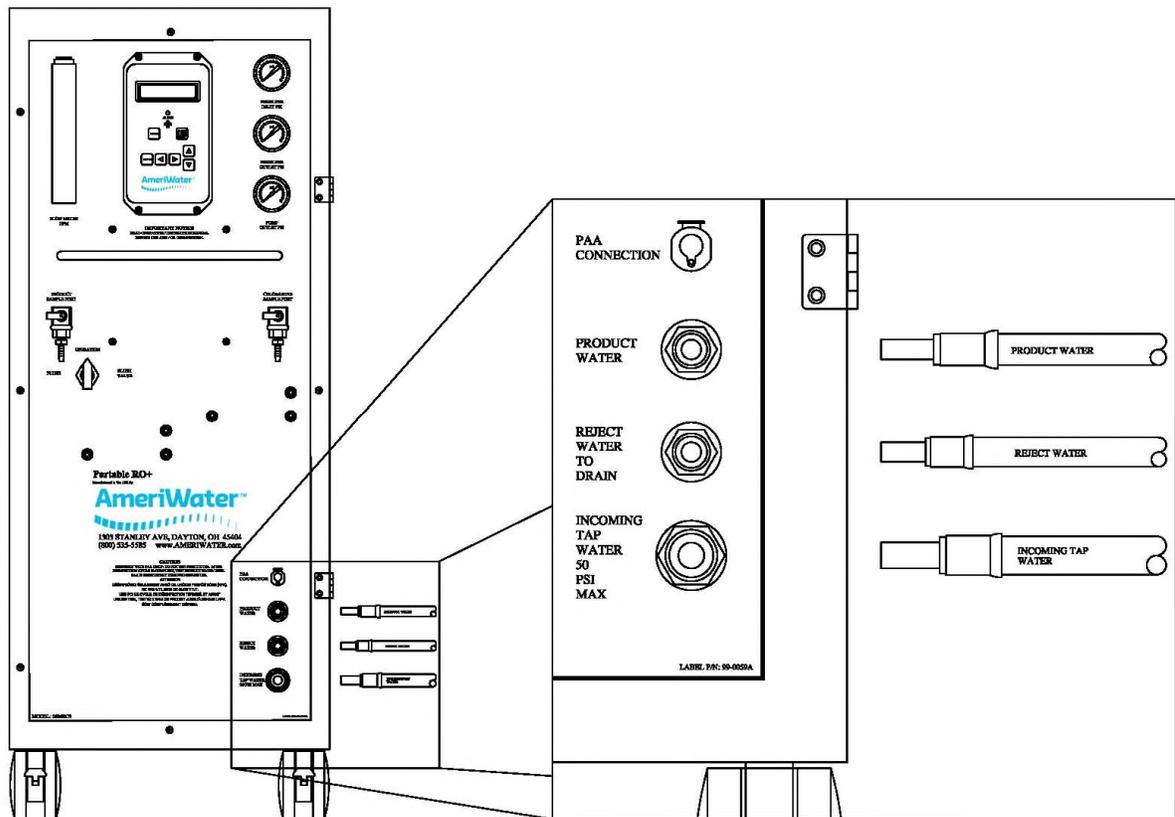

FIGURE 4.1
3. Connect the INCOMING TAP WATER, PRODUCT WATER and REJECT WATER TO DRAIN hoses to the appropriate fittings (see Figure 4.1).